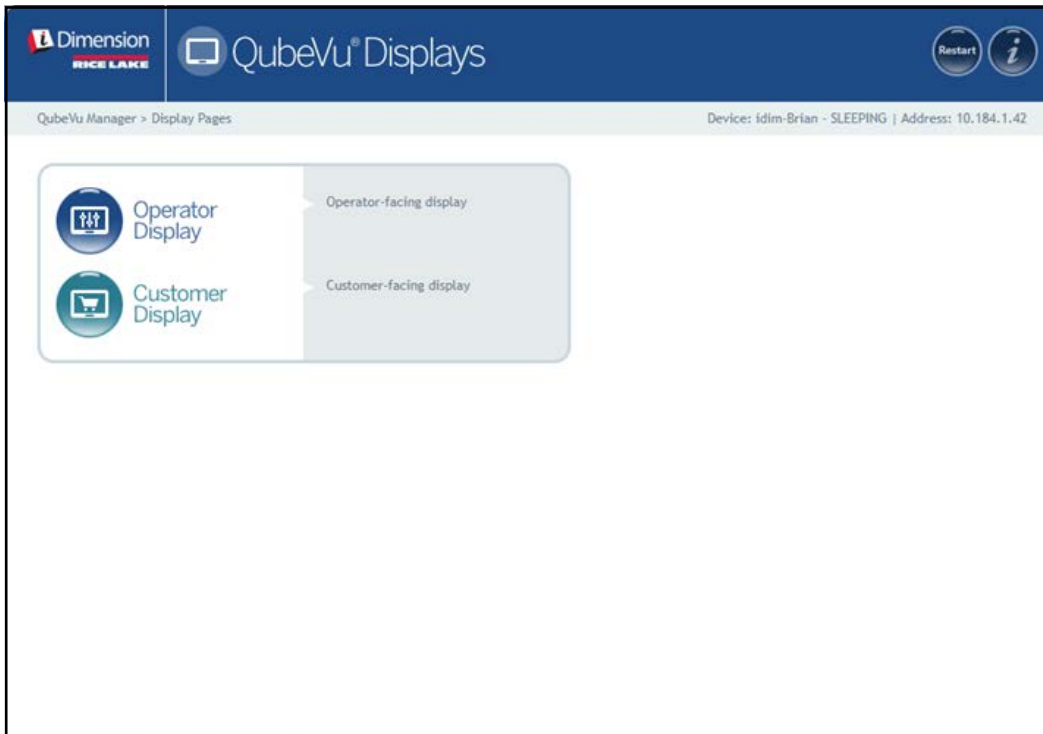

Figure 3-1. Displays Menu
- Select  **Operator Display** from the **Display Pages** menu (Figure 3-1 on page 16). The Operator Display appears.
- Select  **Customer Display** from the **Display Pages** menu (Figure 3-1 on page 16). The Customer display appears.